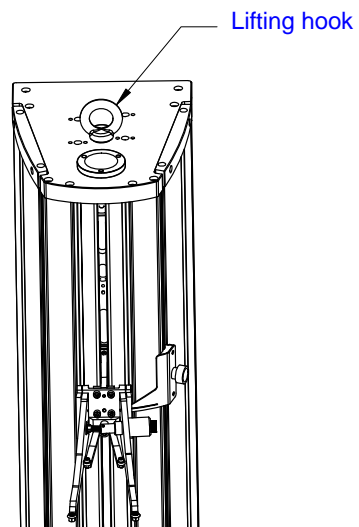

Figure 4. Attach the Lifting Hook
5. Attach the lifting hook (supplied) to the top of the AutoX body (see Figure 4 on page 20).